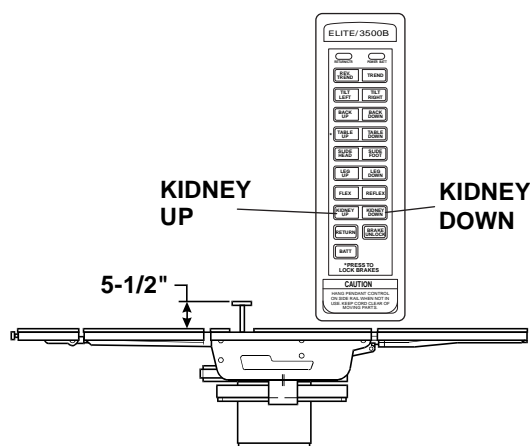

Figure 3-14. Kidney Lift Positioning
i. **Kidney Lift.** To raise the built-in kidney lift, press the KIDNEY-UP button (figure 3-14). Up to 5-1/2 inches of lift can be achieved. Press the KIDNEY -DOWN button to lower the kidney lift.